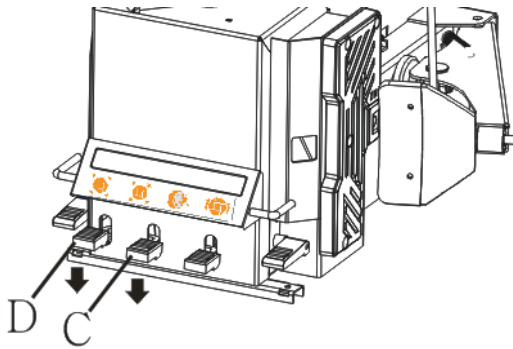

Fig.14
- Press the open control pedal C to prepare the chuck jaws or press D to lock the rim externally (fig.14) .